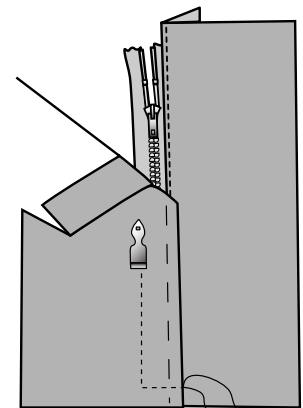

Figure 11
5. Stitch from the bottom to the top by starting at the seam line. Insert the needle at the seam line. Stitch across bottom, pivot with the needle in fabric, and stitch to about 1½ inches from the top. (Figure 11)